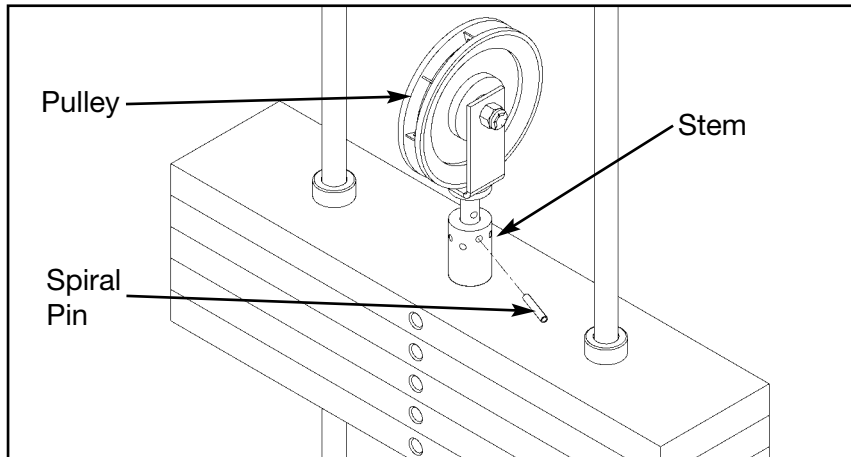

Figure 8
1. Note roll pin location in cable fitting. See Figure 8.